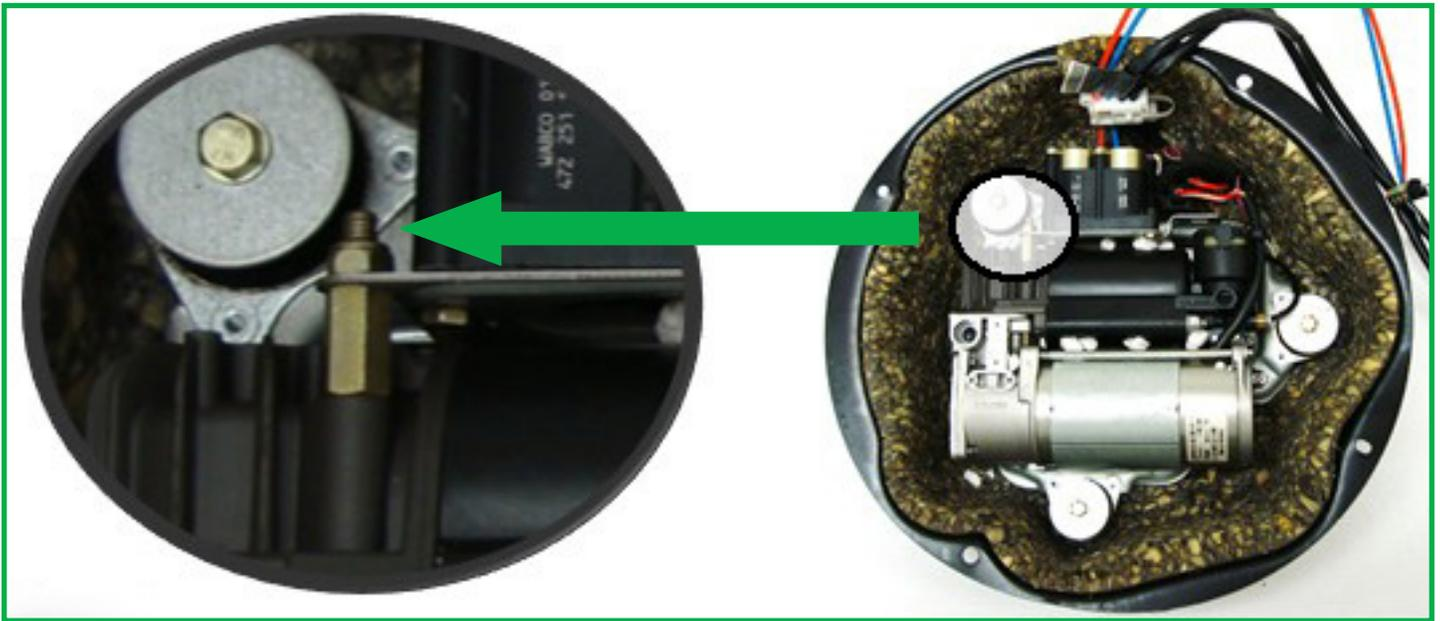

FIGURE 7
5. Loosen relay/solenoid retaining screw. (Figure 7)